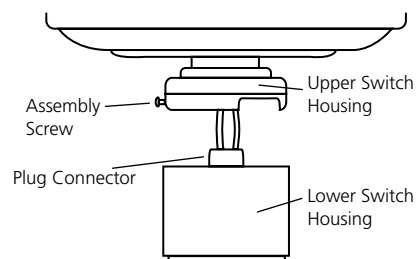

Figure 3 - Lower Switch Housing Assembly
Assemble the lower switch housing to the upper housing. See Figure 3.
Next, line up the lower switch housing with the upper housing and assemble together with the (3) screws and lockwashers provided. See Figure 3.